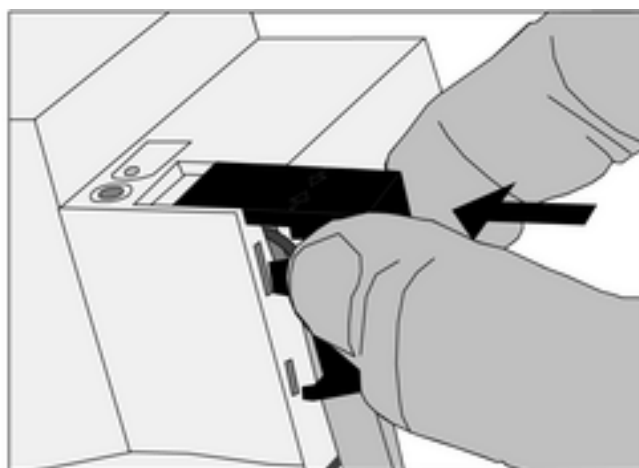

Figure 4: Installing the cover
- Install cover on top of the bus terminal so that it snaps into place (Figure 4).